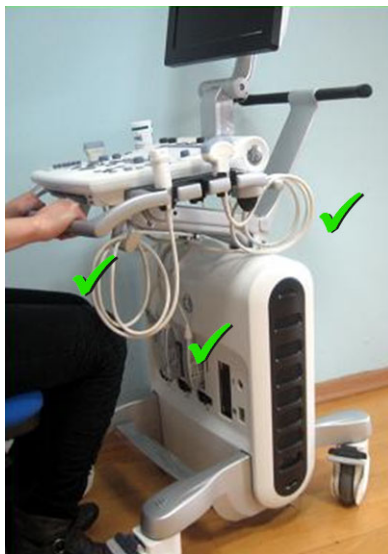

Figure 8-128 Probe in Probe Holder
- 4.) Insert the probe in the probe holder as shown in Figure 8-128.